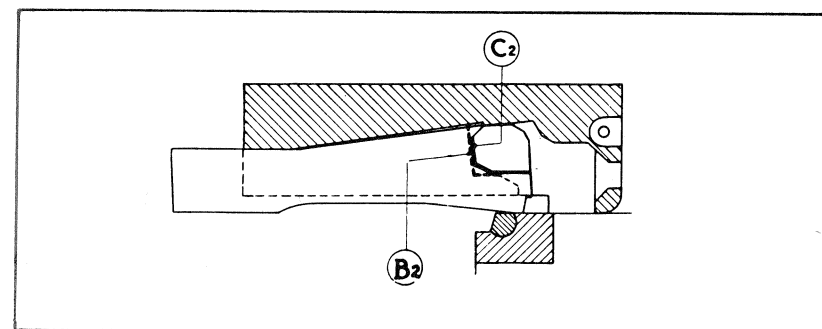

Fig. 8
- The shoulders (B2) of the slide force the bolt up through its shoulders (C2), and the bolt is driven rearwards. (Fig. 8)